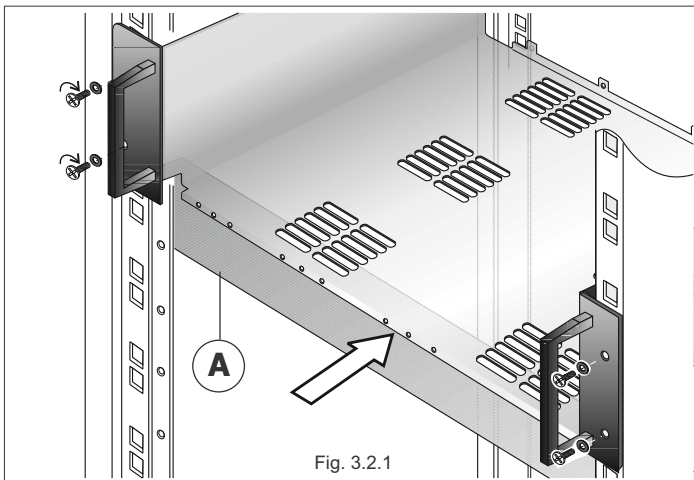

Fig. 3.2.1
- The supporting modules-cage for the amplifiers (see figure 3.2.1) must always be mounted on the supporting brackets provided for this purpose (detail [A]).